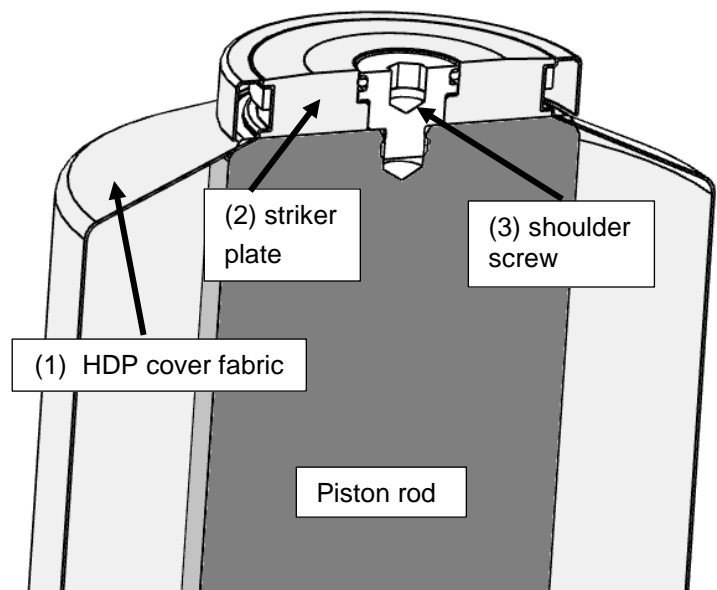

Figure 2 - HDP parts shown in cross section view on a piston rod
The HDP delivery contains the items listed below and shown in figure 2.
- The HDP cover fabric (1)
- A striker plate (2)
- A shoulder screw with an O-ring (3)
- One metal cable tie (not shown in figure 2)